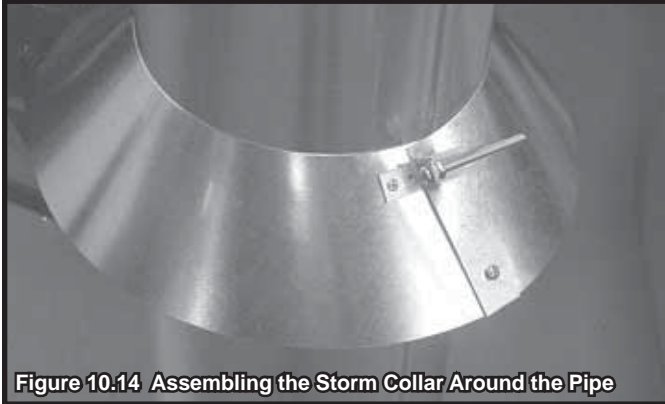

Figure 10.14 Assembling the Storm Collar Around the Pipe
- Slide the assembled storm collar down the pipe section until it rests on the roof flashing (see Figure 10.14).